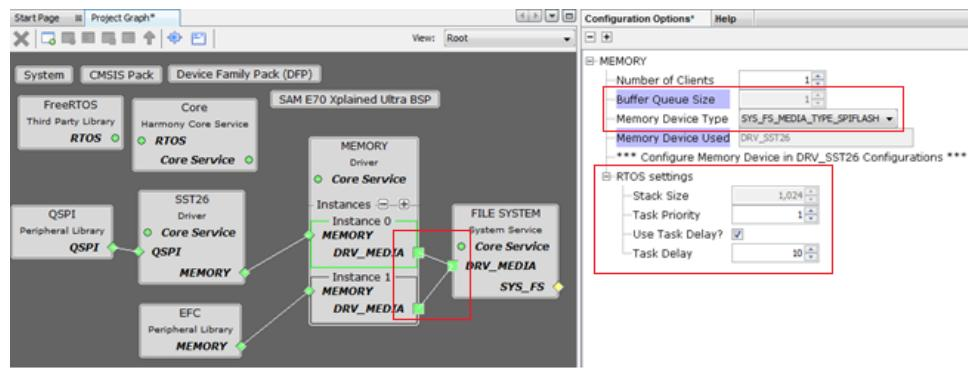

Figure-2 Asynchronous Mode with RTOS and File-System
3. **This Configuration is displayed only in Asynchronous mode. Refer Figure-2**
1. Specifies the type of the device connected when File system is connected to this instance. **Refer Figure-2**
1. This Configuration is displayed only in Asynchronous mode. Refer Figure-2